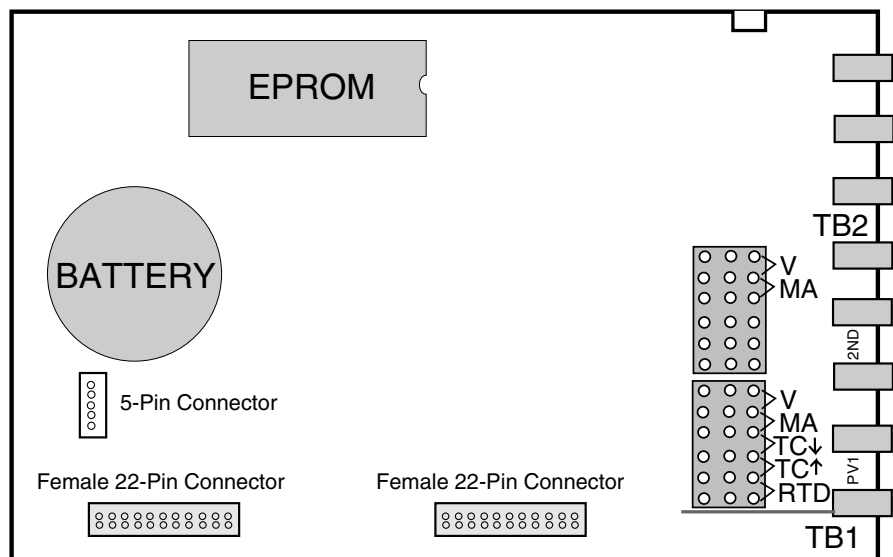

Figure D.2
3. Locate jumpers locations marked **PV1** and **2nd** near the edge connector of the Microcontroller Circuit Board (Figure D.2). Reposition one of the jumpers on the pins marked **V** of the **2nd** jumper location and the other on the pins marked **TC▲** of the **2nd** jumper location.
3. Locate jumpers marked **PV 1** and **2nd** near the edge connector of the Microcontroller Board (refer to Figure D.2). Relocate both jumper connectors so that one is positioned on the pins marked **V** of the **2nd** jumper and the other on the pins marked **TC▲** of the **2nd** jumper.